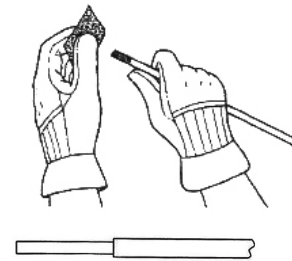

Fig. 1
2. Use emery cloth provided to lightly roughen surface of fiberglass core end (Fig. 1). Do not remove large amounts of material during sanding.